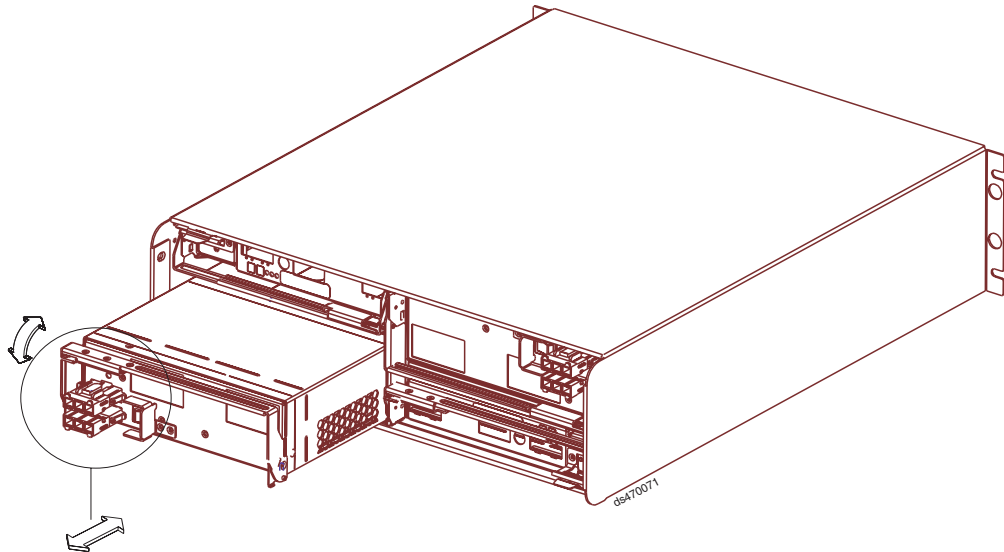

Figure 26. Replacing a dc power supply and fan unit
1. Slide one dc power supply and fan unit into the storage expansion enclosure. Be sure to replace the dc power supply and fan units so that the lever on each dc power supply and fan unit opens toward the interior of the storage expansion enclosure, as shown in Figure 26.